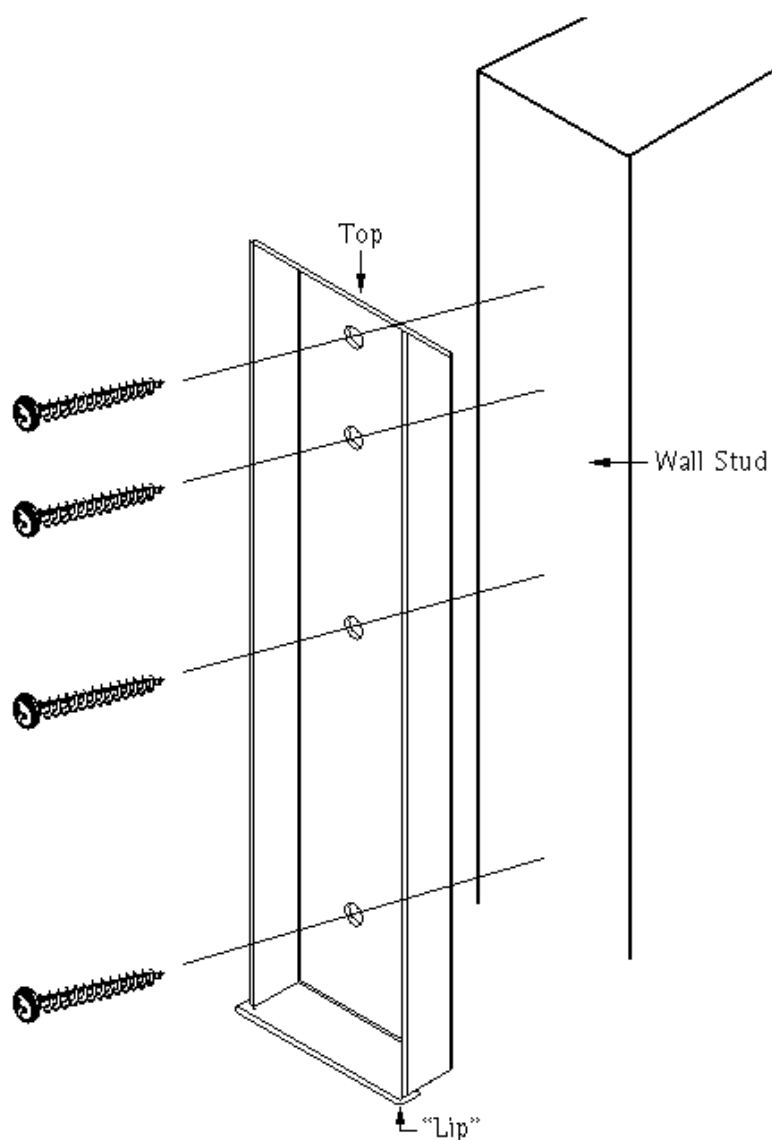

Figure 2. Backplate Installation
5. Use the provided wood screws to attach the back plate to the wall (Figure 2).